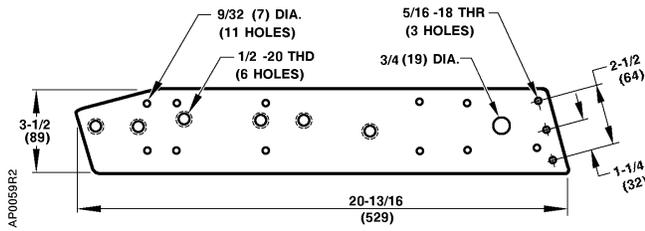

**Figure 10. Frame Mounting Dimensions.
2. Weld the mounting lug to the damper frame (Figure 10) so that it is parallel and 5/16-inch (8 mm) from the inside edge of the damper frame and perpendicular to it. Weld the mounting lug along both sides. The mounting lug should be as close as possible to the corner of the damper frame to minimize deflection. The damper manufacturer should weld the lug.
4. Attach the rocker to the blade in the proper position for a normally open or normally closed damper (Figure 10).